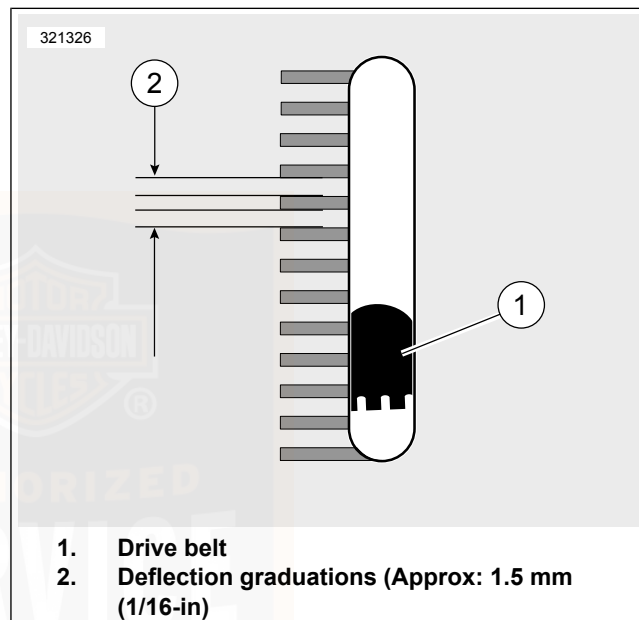

Figure 34. Belt Deflection Window
- a. Slide O-ring (4) to zero mark (3).
- b. **Models equipped with belt deflection window:** Fit belt cradle (2) against bottom of drive belt in line with belt deflection window.
- c. **All other models:** Fit belt cradle (2) against bottom of drive belt halfway between drive pulleys.
- d. Press upward on knob (6) until O-ring slides down to 10 lb (4.54 kg) mark (5) and hold steady.
- a. **Models equipped with belt deflection window:** See Figure 34. Measure belt deflection as viewed through belt deflection viewing window while holding gauge steady. Each deflection graduation is approximately 1/16 in (1.6 mm)